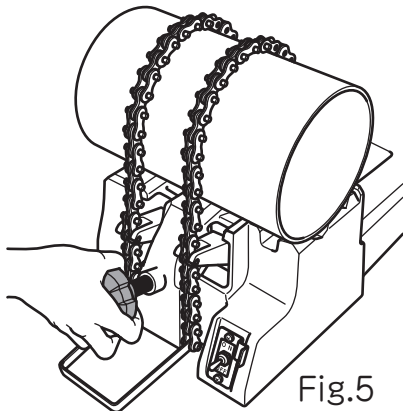

Fig.5
- (1)Place the workpiece into contact with the vise V groove. Hold the chain handle, chain the workpiece, grad the pin of the chain with the clamber, and turn the clamp knob to tighten the workpiece. [Fig.5]